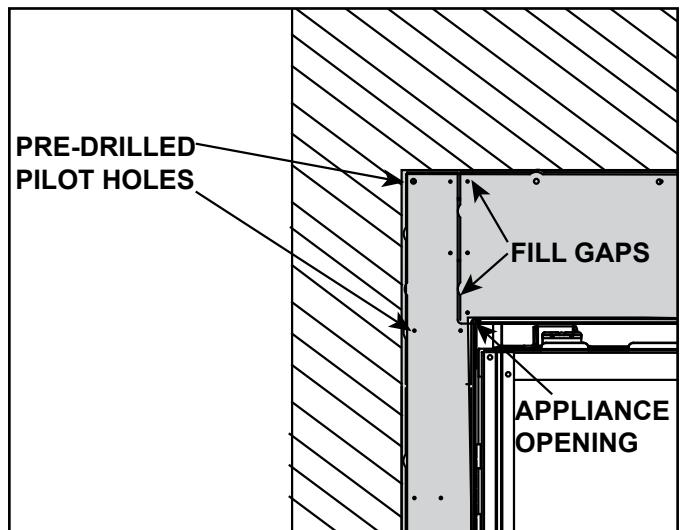
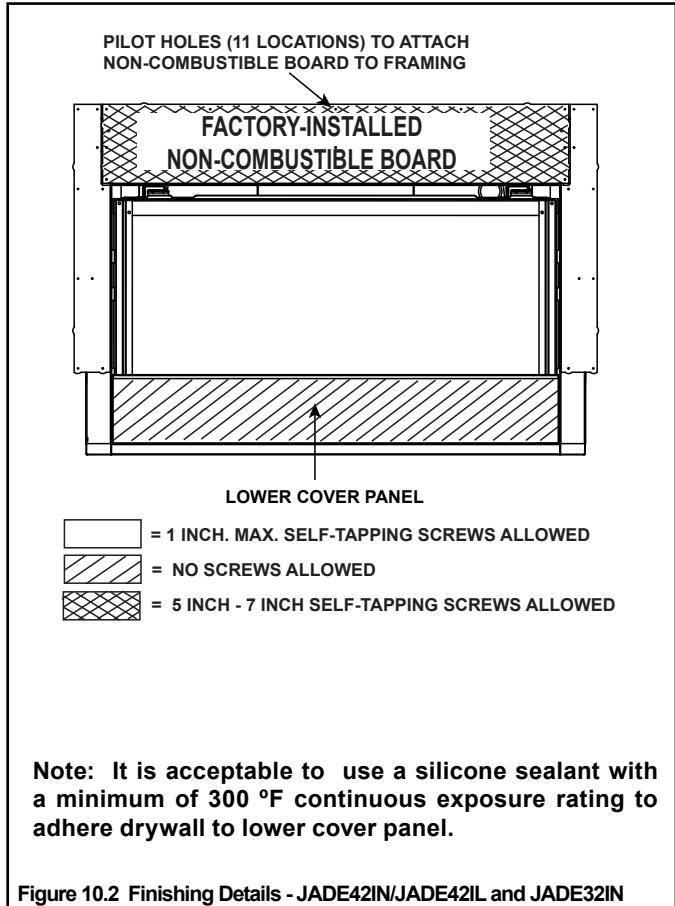

Figure 10.1 Install Non-Combustible Board
Figure 10.2 Finishing Details - JADE42IN/JADE42IL and JADE32IN
The factory-supplied non-combustible board must be used in all installations. It must be directly attached to structural framing adjacent to the appliance. Screw fasteners should be installed in the pilot holes provided in the outer perimeter of the non-combustible board. See Figure 10.1 and Figure 10.2.
2. The appliance ships with the required non-combustible board. The large top piece of non-combustible board is pre-installed at the factory. The narrow left and right non-combustible pieces are shipped within the appliance. Install the non-combustible side pieces with the screws provided in the manual bag assembly. There are pilot holes located on the left and right side columns. Care should be taken not to tighten these screws into the non-combustible board excessively. Set screws flush to the face of the non-combustible board. See Figure 10.2 and Section 6.D.
3. The outer perimeter of the factory-installed non-combustible board has pre-drilled pilot holes. See Figure 10.1. Secure the non-combustible board to adjacent framing with drywall screws that are a minimum of 1-1/4 inch in length. Care should be taken not to tighten these screws into the non-combustible board excessively. Set screws flush to the face of the non-combustible board. See Figure 10.2 and Section 6.D.
4. When installing drywall around the appliance, install a rectangular hole for the fireplace/non-combustible board in a single sheet of drywall. This will minimize the joints that require finishing adjacent to the fireplace opening. Ensure that the 1/8 inch gap is maintained between the factory installed non-combustible board and the surrounding drywall. See Figure 10.1. Secure the drywall to the framing with screws a minimum of one inch in length every six inches across the top of the fireplace and every ten inches on the sides of the fireplace.
1. **Step 1:** Fill all gaps and joints between the non-combustible board pieces and the drywall with a general purpose chemically setting joint compound such as Durabond® 45 Joint Compound manufactured by USG (Sheetrock® brand), recommended by Hearth & Home Technologies. Use a drywall knife to firmly press the joint compound into all gaps. See Figure 10.1. Allow these joints to dry.
Do not drill or install screws which may penetrate the lower cover panel as this will restrict required access to the glass, battery-back-up, and control module. See Figure 10.2.
It is acceptable to pre-drill holes and use self-tapped screws in the factory-installed non-combustible board to attach non-combustible backer board for tile, marble, etc. Refer to Figure 10.2 for acceptable screw location and screw length requirements.
Self-tapping screws up to one inch long can be installed through the nailing tab and outer 3 inch edges of the factory-installed non-combustible board to secure the drywall adjacent to the factory-installed non-combustible board. See Figure 10.2.